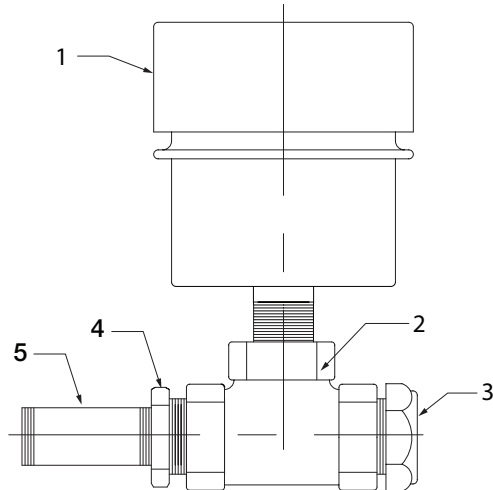
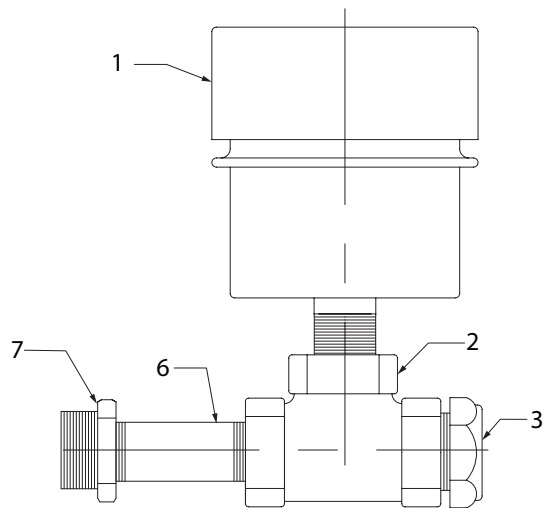

Figure 3 - Position D Breather Kit (MTA2 – MTA3)
Figure 4 - Position D Breather Kit (MTA4 – MTA8)
1. Assemble position D breather kit as shown in Figure 3 (MTA2 – MTA3) or Figure 4 (MTA4 – MTA8).
3. Remove standard breather from reducer (if installed) and replace with solid oil plug. (See Figure 4)
② 1	Expansion Chamber	240053	1	1
② 2	1/2 Pipe Tee	034720004AB	1	1
② 3	Oil Sight Gauge	430121
② 4 ③	1/2 x 3/8 Hex Bushing	034600006AB	1	–
② 5	Pipe Nipple 1/2 x 3	034530024DB	1	1
② 6	Pipe Nipple 3/8 x 3	034530024CB	1	1
② 7 ④	3/4 x 1/2 Hex Bushing	034600010AB	–	1
① Refer to Figure 3 or Figure 4
② Makes up assembly under which it is listed
③ This part is used only on MTA 2 - MTA 3
④ This part is used only on MTA 4 - MTA 8
2. The long bushing is designed to be installed from the side of the reducer opposite the driven equipment as shown in Figure 4. The long bushing when properly installed is designed to capture the end of the customer shaft that does not extend through the reducer. Normally the reducer would be mounted such that the input shaft extends from the side of the reducer opposite the driven equipment however the reducer design allows installation of the reducer to be mounted in the opposite direction.